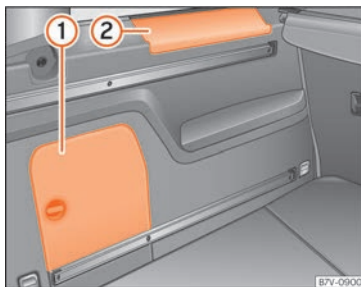

Fig. 191 In the boot: lateral storage compartment.
There are other compartments »» Fig. 191 ① and ② in the side of the boot. To open the compartment ①, turn the catch clockwise. To open the compartment ②, lift the cover. Compartment ① houses the factory fitted **CD changer**. The compartment lid ① can safely store the tray support covers.